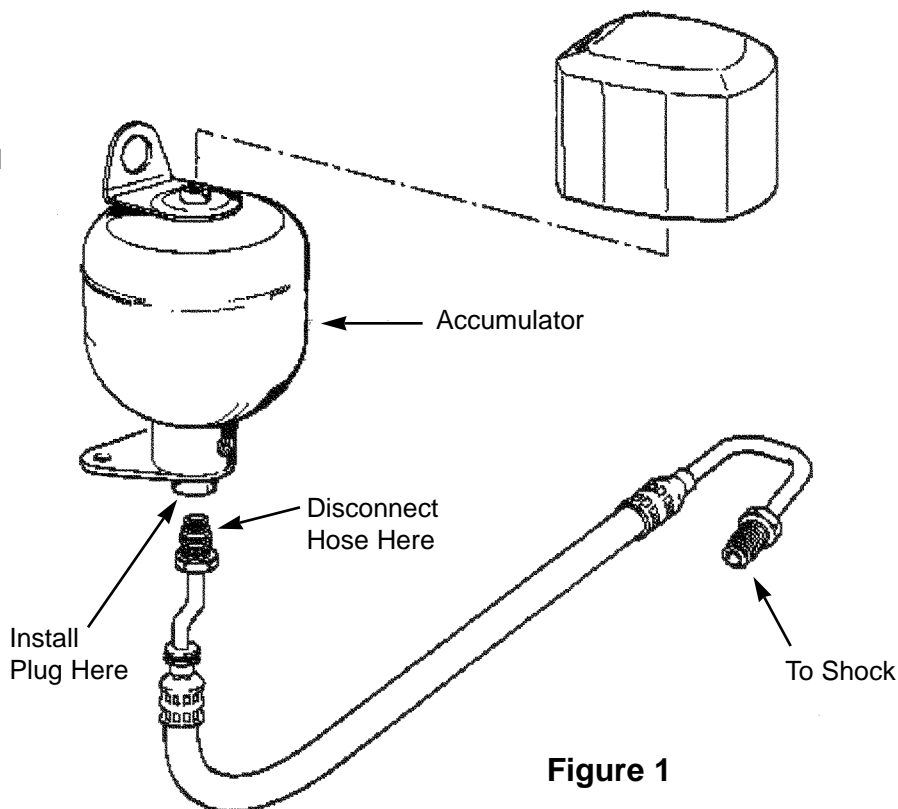

Figure 1
1. Disconnect the hydraulic hose, at each side, running between the rear shock and the accumulator (mounted to the rear inner fender well), at the accumulator. (See Figure 1)
3. Use the included plugs to plug the accumulators where the hose was previously installed. Wrap the plug threads with teflon thread sealing tape before installing. (See Figure 1)